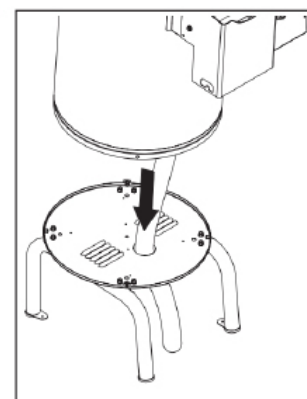

Fig. 12.
- Insert the drain tube into the hole at the bottom of the machine (Fig. 12).